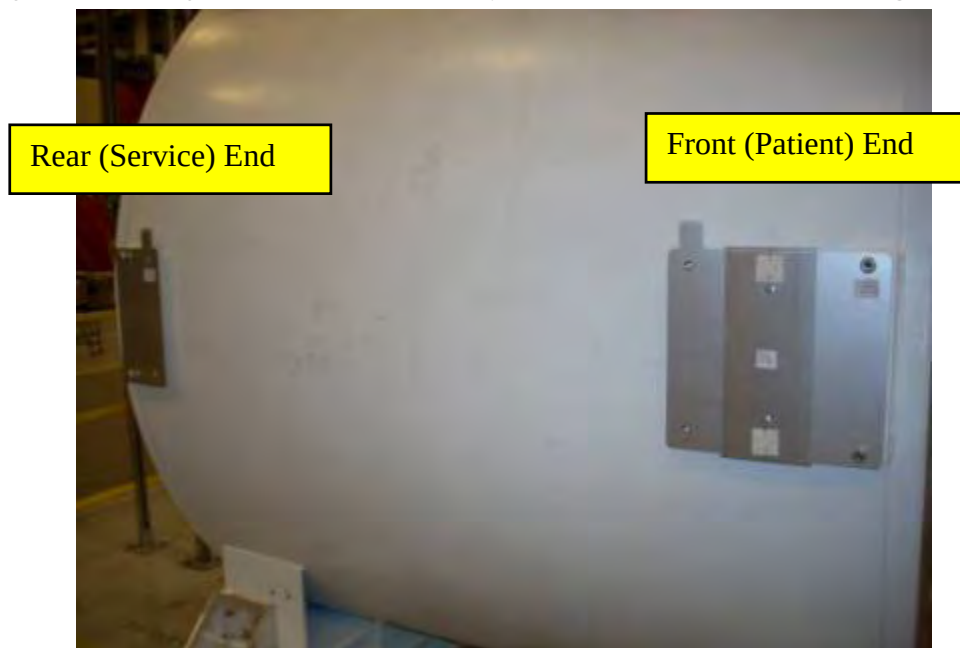

Figure 9
- F. Install Side Electronics Tray Assembly support Brackets at each of the radial pad locations as shown using M10X25 Socket head cap screws, a 10 mm flanged bushing (5316128) and a nylon washer as shown. **(Fig 9 & 10)**